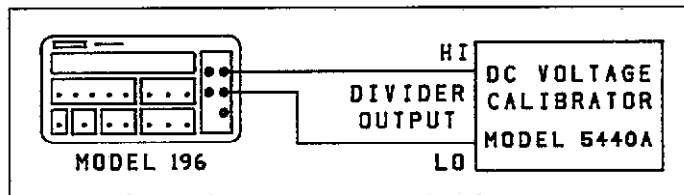

Figure 6-1. DC Volts Calibration Configuration (300mV and 3V Ranges)
2. Connect the DC calibrator to the instrument as shown in Figure 6-1.